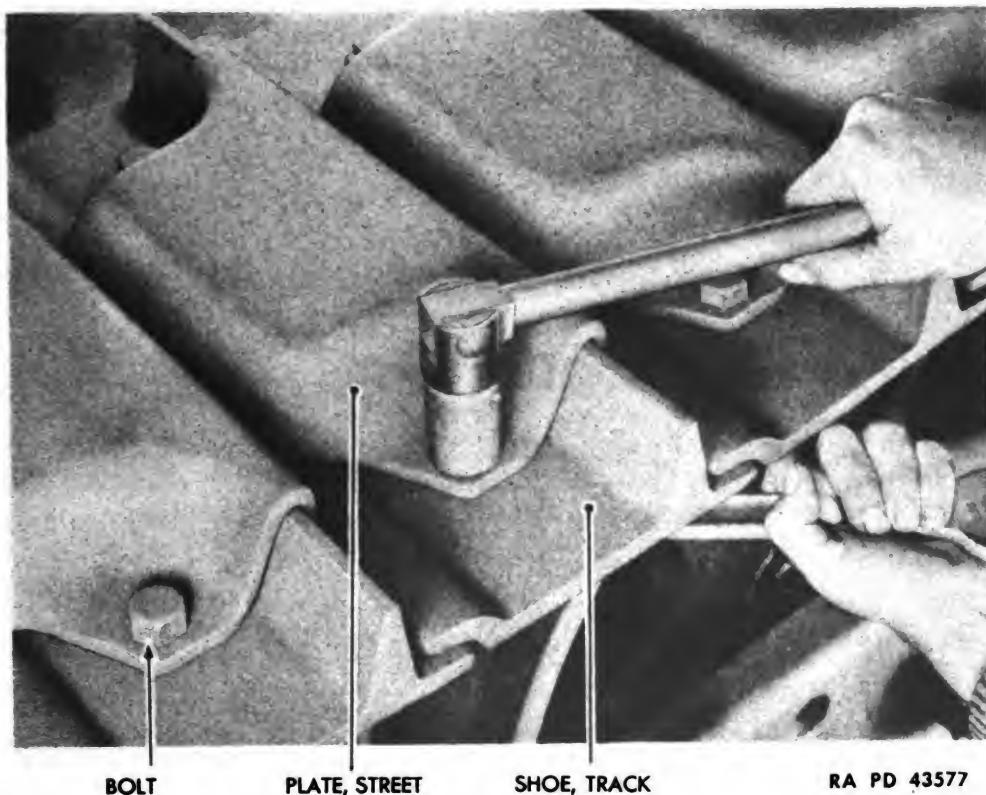

Figure 165 — Street Plate Removal
(a) Remove Street Plate (fig. 165).
(b) Install Street Plate (fig. 165).
(a) Remove Street Plate if Street Plate is Installed (fig. 165). Follow procedure outlined in step (1) above.
(d) Install Street Plate if Required (fig. 165).